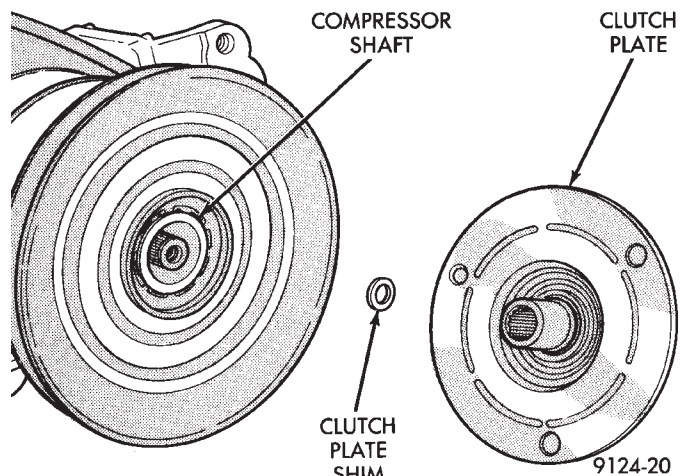

Fig. 2 Clutch Plate and Shim(s)
- (2) Tap the clutch plate with a plastic hammer and remove clutch plate and shim(s) (Fig. 2).